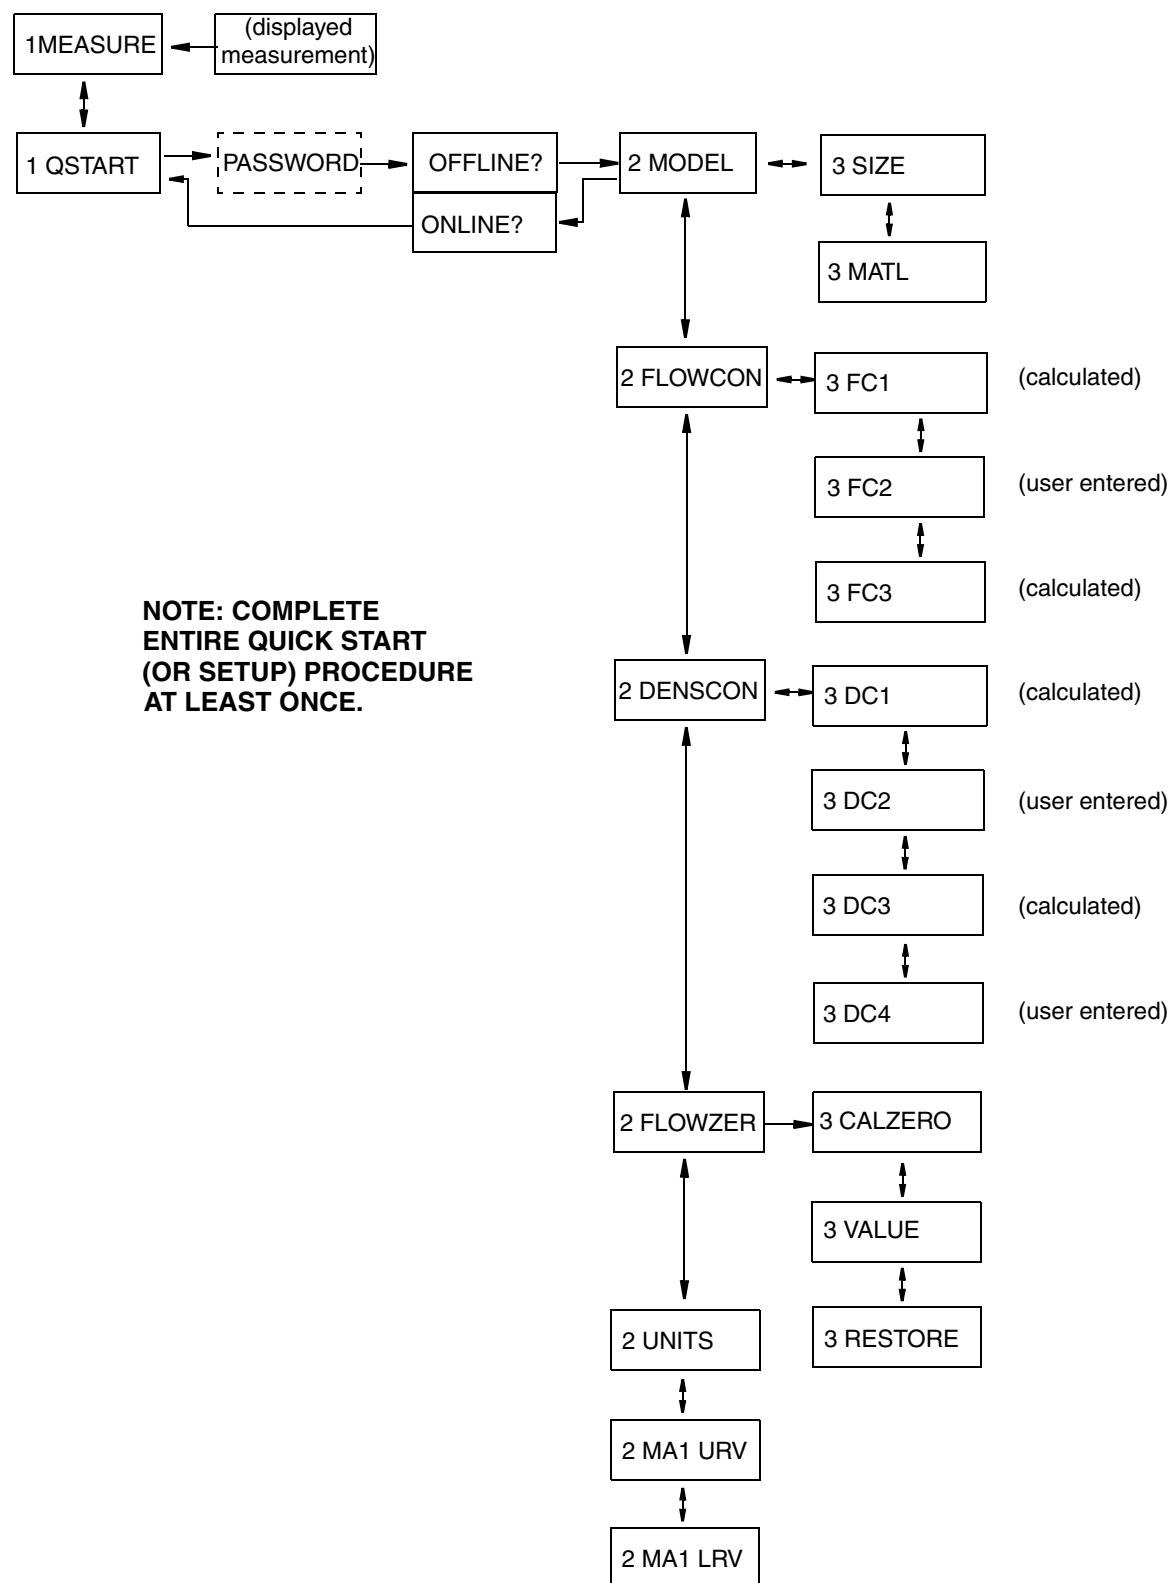

Figure 17. Keypad/Display Quick Start Menu
6. Enter the model size and material, flow constant FC2, and density constants DC2 and DC4 into the transmitter using the Quick Start menu (see Figure 17 or 18).
The Keypad/Display Quick Start menu is shown in Figure 17.